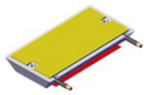

Figure1
2. Peel off paper from thermal pad, place module onto the fixture and please refer to Figure 1.